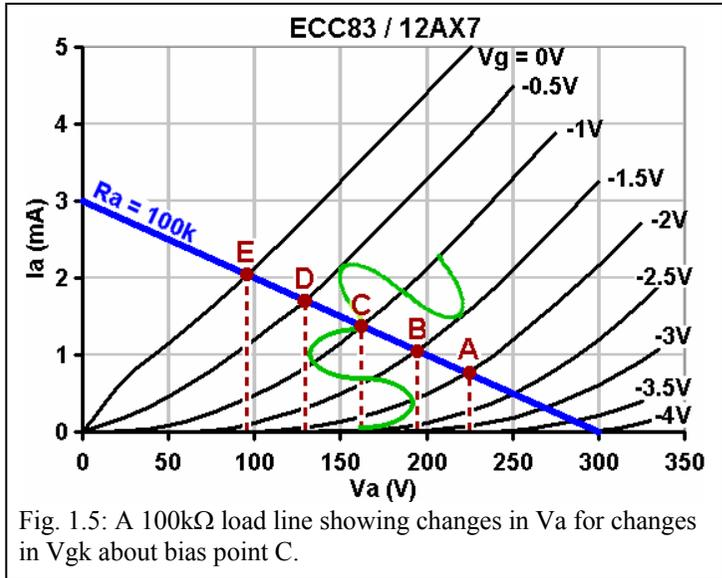

Fig. 1.5: A  $100\text{k}\Omega$  load line showing changes in  $V_a$  for changes in  $V_{gk}$  about bias point C.
**biasing** the valve. For example; we could fix the grid voltage at  $-1\text{V}$ , and this is now our **bias point**, labelled 'C' in fig. 1.5. We are not yet inputting any signal, the valve is simply at rest. The valve is said to be in a state of **quiescence**, and we can see from the graph
Referring again to fig. 1.5, let us increase the input signal to 3Vp-p. The grid can swing down to  $-2.5\text{V}$  and  $V_a$  rises to 250V. But, when we try and make the grid more positive we find there are no more grid curves shown beyond  $V_{gk} = 0\text{V}$ . What happens here is that as the grid voltage approaches the cathode voltage, electrons being drawn from the space charge get attracted to the grid, rather than to the anode (since the grid is very much closer), rather as if we have placed a diode between grid and cathode. Conventional current flows in the opposite direction –into the grid and down through the cathode– and this is known as **forward grid current**. This causes a voltage drop across the source resistance, that is, the output impedance of the driving circuit, so the actual voltage *at the grid* falls. To put it crudely, less of our input voltage actually makes it to the grid. And the more we attempt to make the grid positive the more current flows into it to prevent us from doing so, as if some invisible volume control is being suddenly turned down. In technical terms, the input impedance of the valve quickly falls from many meg-ohms to a few kilo-ohms or less, and this effect is known as **grid-current limiting**\*, and it causes the output signal to appear ‘chopped off’ or **clipped** on the negative side. It must be fully understood though, that it is actually the *grid signal* which becomes clipped; the valve continues to amplify what appears on its grid perfectly normally.